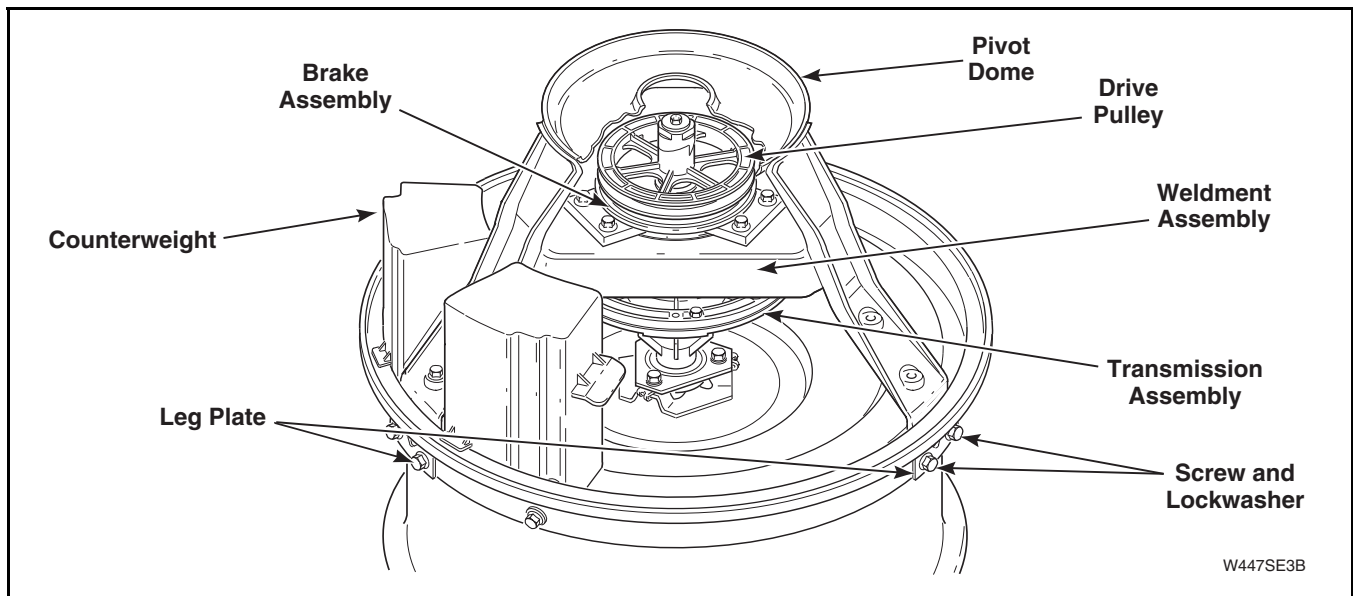

Figure 68
x. Remove screws and lockwashers holding counterweight and each support leg to outer tub. Refer to *Figure 68*. Then lift transmission, weldment assembly and counterweight off tub.